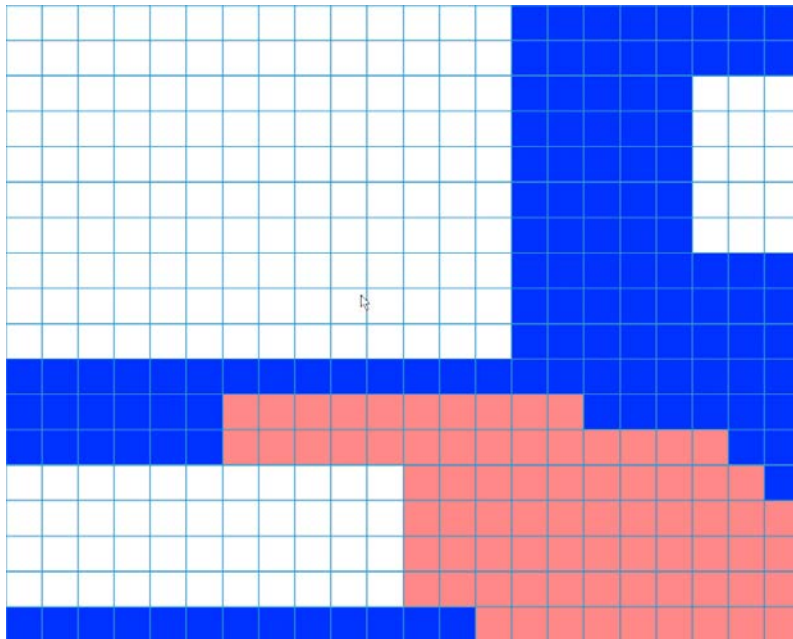

Figure 3-60
9. Select the **Test** button. A screen appears as in Figure 3-60. The system only displays the motion detect status of the blue area. The red flashing area shows motion has been detected in this area.